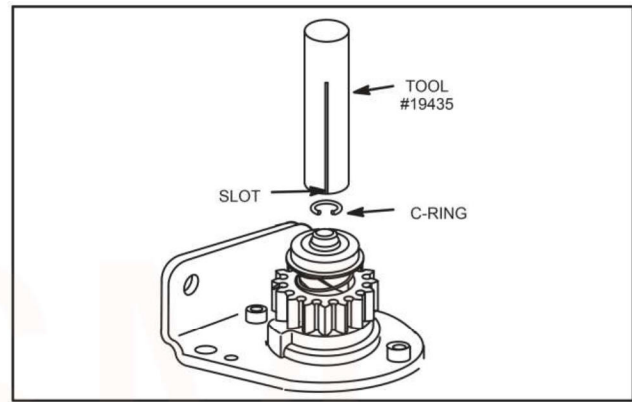

Fig. 10 – Install C-Ring
5. Press or drive C-Ring on until it snaps into groove in shaft, Fig. 10.